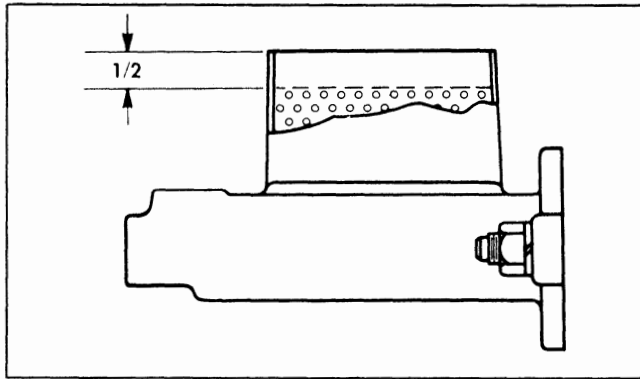

Fig. 5-8 Correct Fluid Level in Master Cylinder
4. When bleeding operation is completed, refill reservoir to within $\frac{1}{2}$ " of top of master cylinder filler neck gasket surface then replace filler cap (Fig. 5-8).